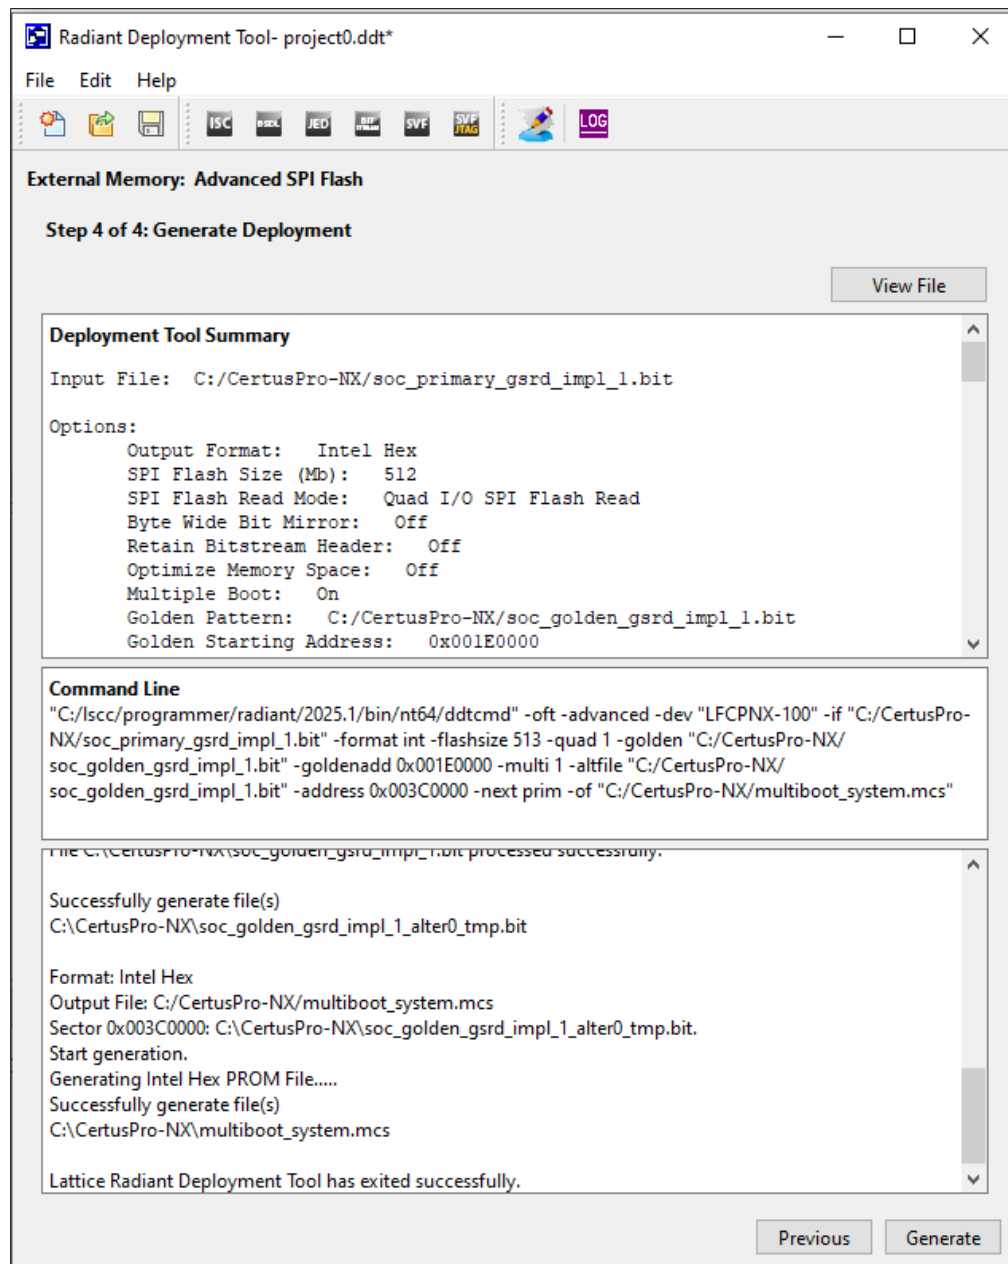

Figure 7.64. External Memory Step 4 of 4: General Development
10. In **Step 4 of 4: Generate Deployment**, click **Generate** at the bottom right corner as shown in Figure 7.64.